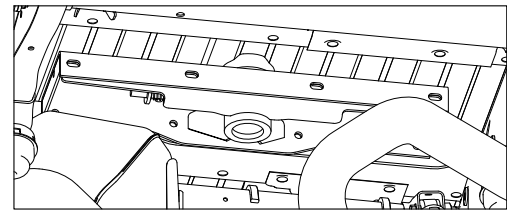

FIGURE B6: View of Truck Bed looking towards front of truck.
2. **Stage center section.** Raise the center section into place as shown in figure B6, staging it for installation. When staged correctly, the receiver socket will be "offset" toward the rear of the truck. It may be helpful to pull down on the exhaust while positioning to allow extra room for maneuvering it into position.